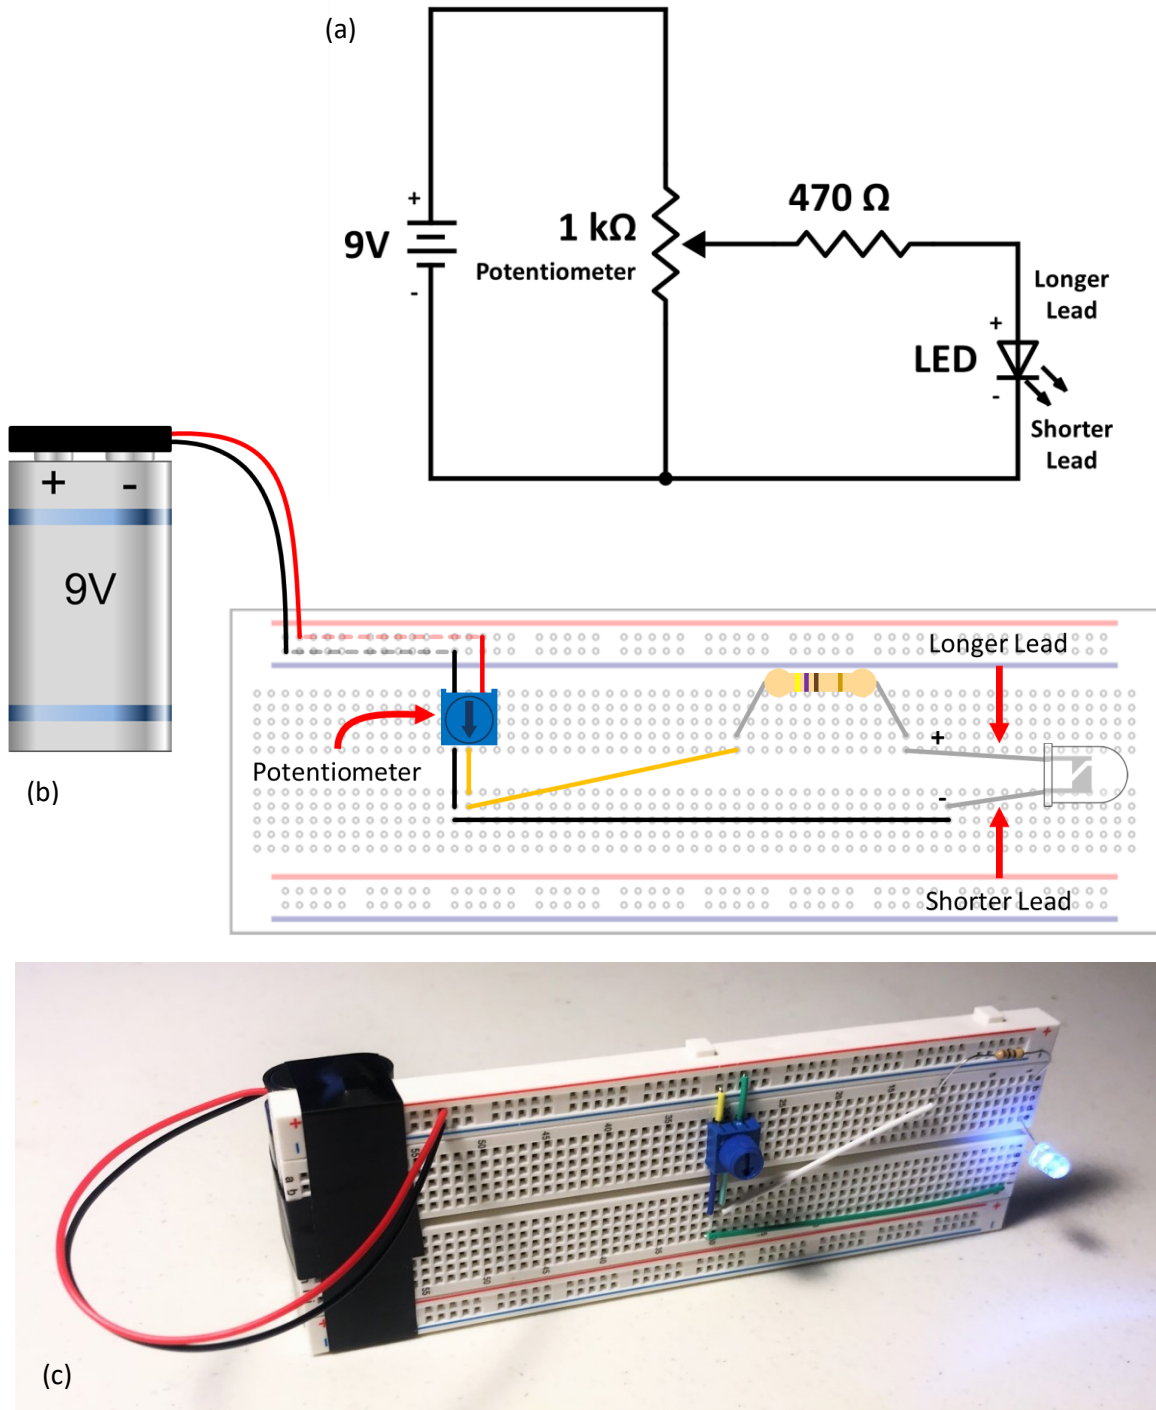

Fig. 3: Adjustable LED Circuit – (a) Circuit diagram for source LED, (b) Breadboard wiring diagram, (c) Example circuit with battery taped to the breadboard
1. Prepare the source LED by constructing the circuit as shown in Fig. 3.